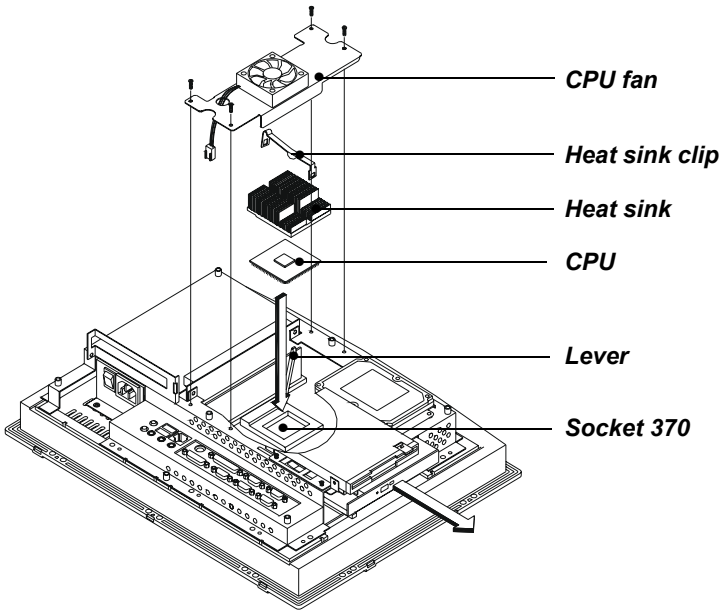

Figure 4.3: Installing the CPU
ing from the corner of the square array of pin holes. An arrowhead printed on the motherboard points to the end of the lever. (See Fig. 4-3 overleaf.)
11. Place the heat sink on top of the CPU and fasten it with the heat sink clip (shown in Fig. 4-3).